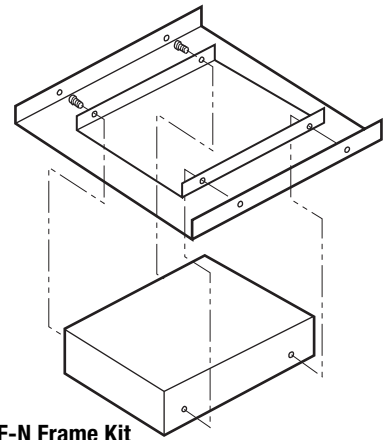

Figure 2 - FIF-FTBF-N Frame Kit
3. Mount the heater back box to the FIF-FTBF-N kit frame using the four (4) screws provided with kit. See Figure 2